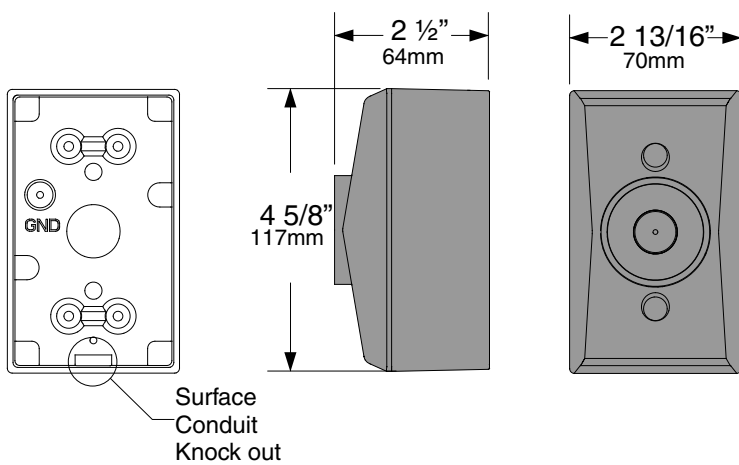

Fig. 2
- See Fig. 2. The center of the surface mount box should be located about 5" from the top of the door. Using the 10 x 1 1/2" PHWS screws, attach the surface mount box vertically to the wall with the surface conduit knockout pointing in the desired direction. Anchors to be provided by others to suit wall construction other than wood. The box must at least withstand a 50 pound pull.
- See Fig. 2. With the magnet wired, position the magnet bracket assembly into the surface mount box and attach it to the box using the (4) 10-24 shorter screws from step 1A. Tighten firmly. Attach the cover housing using the (2) 10-24 longer screws from step 1A.